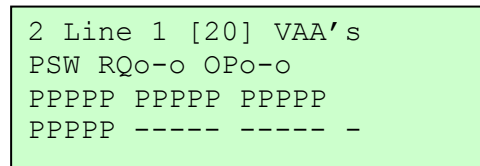

Figure 32
3. Once all of the VAA confirmations have been received, the Line Status page will then appear shown in Figure 32. It can be seen that all 20 VAA units have confirmed as indicated by the **P**'s, each representing confirming VAA.